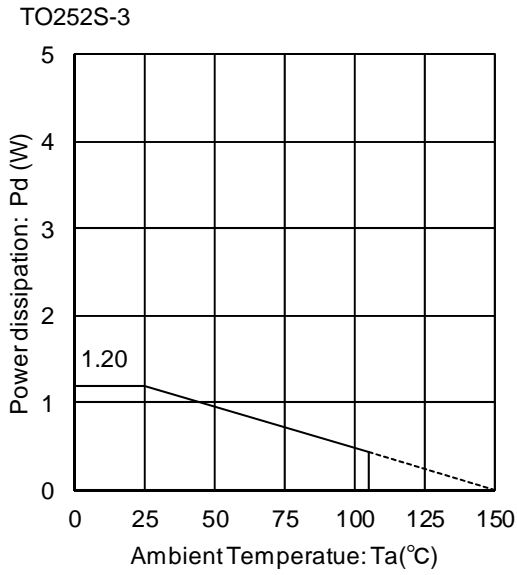
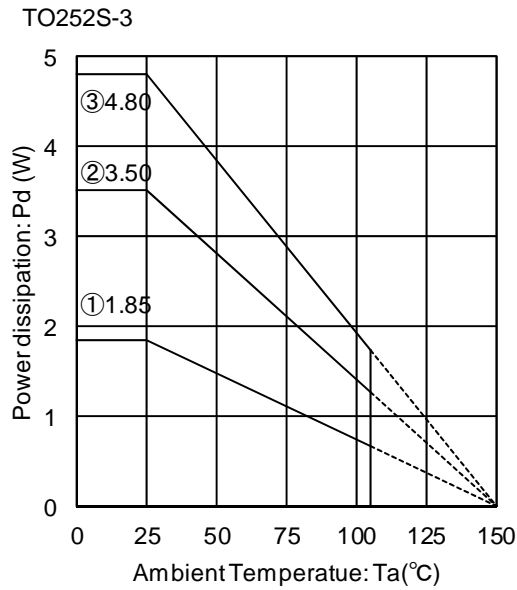

Figure 25.
Figure 26.
When used at temperatures over  $T_a=25^{\circ}\text{C}$ , please refer to the power dissipation curve shown in Figure 25 and Figure 26. The IC characteristics are closely related to the temperature at which the IC is used, so it is necessary to operate the IC at temperatures less than the maximum junction temperature  $T_{j\text{max}}$ .
Figure 25 and Figure 26 show the acceptable power dissipation curve of the TO252S-3 package. Even when the ambient temperature  $T_a$  is at normal temperature ( $25^{\circ}\text{C}$ ), the chip (junction) temperature  $T_j$  may be quite high, so please operate the IC at temperature less than the acceptable power dissipation  $P_d$ .
The calculation method for power consumption  $P_c(W)$  is as follows :(Figure 26③)
( Figure 26③ :  $\theta_{ja}=26.0^{\circ}\text{C/W} \rightarrow -38.4\text{mW}/^{\circ}\text{C}$